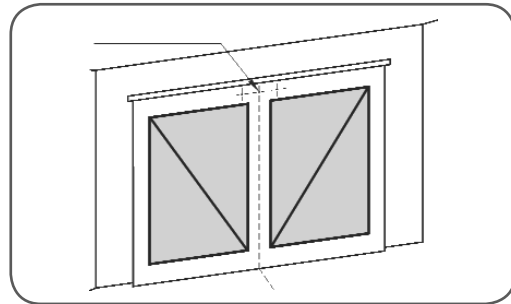

fig 03
1. Determine the centre of the door and mark this point on the wall above (**Fig. 03**).